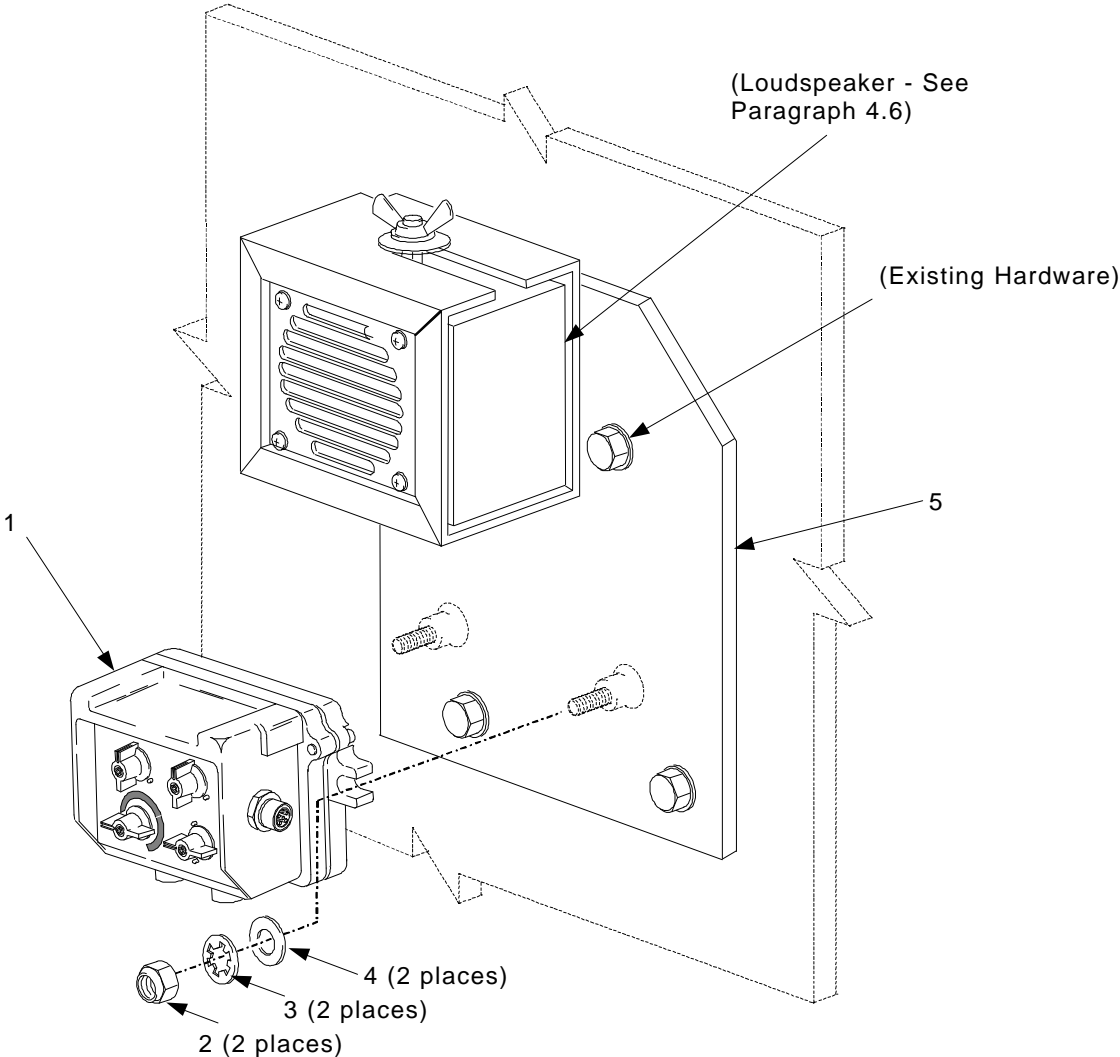

Figure 4-4. Loader's FFCS Installation
- (1) Install and secure the Loader's FFCS/Loudspeaker bracket (5) to the roadside wall as shown in Figure 4-4, using existing hardware and the following tools:
- (2) Install and secure the Loader's FFCS (1) to the Loader's FFCS/Loudspeaker bracket (5) in the sequence(s) shown in Figure 4-4 using the parts listed in Table 4-2 and the following tools:
Install and secure Loudspeaker to Loader's/Loudspeaker Bracket on the roadside wall by sliding loudspeaker shaft into bracket slot. Tighten wing nut by turning clockwise. See Figure 4-4.